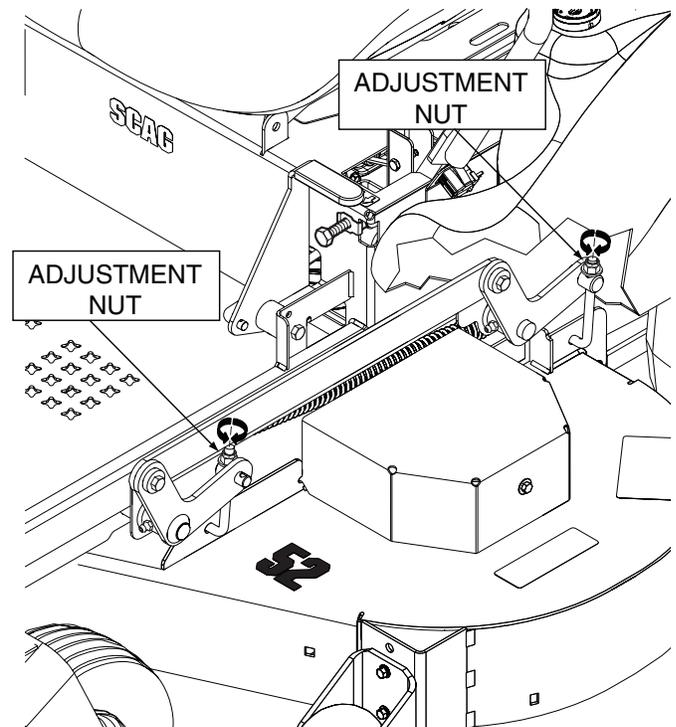

Figure 6-7. Cutter Deck Height Adjustment - Left Side
3. Turn the elastic stop nuts an equal amount of turns either clockwise to raise or counter-clockwise to lower the cutter deck until the measurement at the cutter blade is 3" on both sides of the machine. See Figure 6-7 for the left side and 6-8 for the right side.